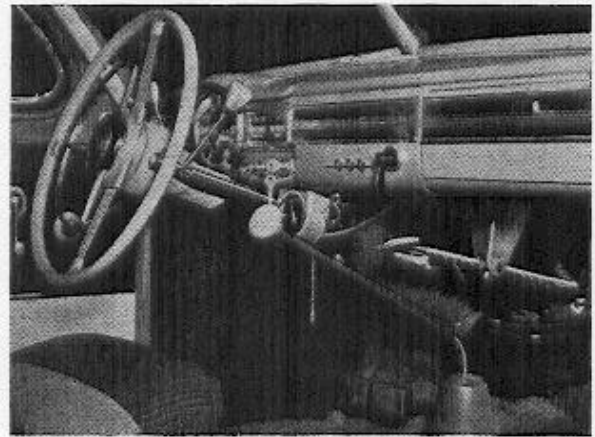

Fig. 22.
12. Fit the vacuum meter (6) under the instrument panel by attaching the bracket with screws. Drill holes with a diameter of 3,5 mm ($9/64$ "") for the screws. See Fig. 22. Connect the hose (7).
If so desired, the hand brake lever may be moved to the right of the steering wheel for operation by the right hand. See Fig. 22.